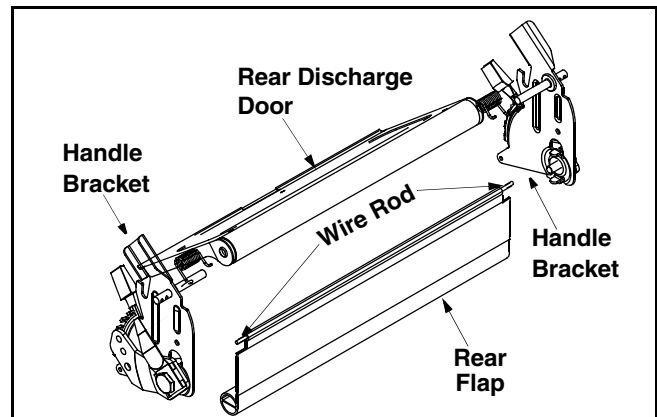

Figure 13
- To remove rear flap, cut off the flat end of the wire rod which secures it to the deck. See Figure 13 .